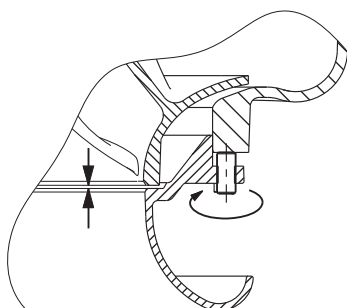

Fig. 9 Impeller clearance, installation types S, C and ST
Use a feeler gauge (N) to check the clearance between the impeller and the suction cover all around the perimeter of the suction opening. See fig. 9.